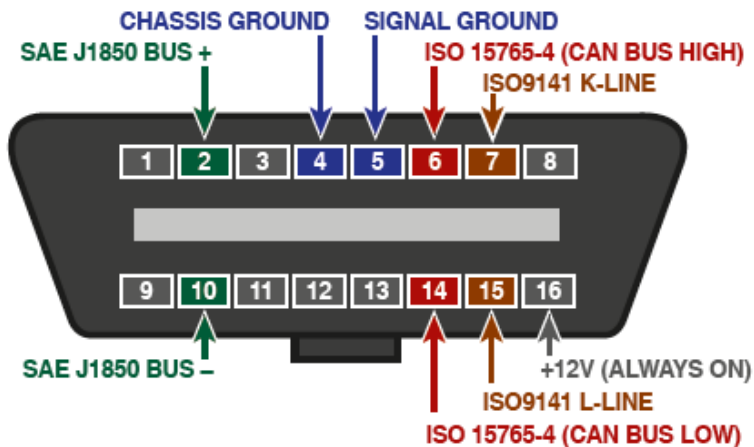

Figure 1. Data link connector (DLC) pins.
The 16-pin data link connector adheres to the SAE J1962 standard. It is located on the driver's side on all vehicles sold in North America, starting with model year (MY) 1996. Figure 1.